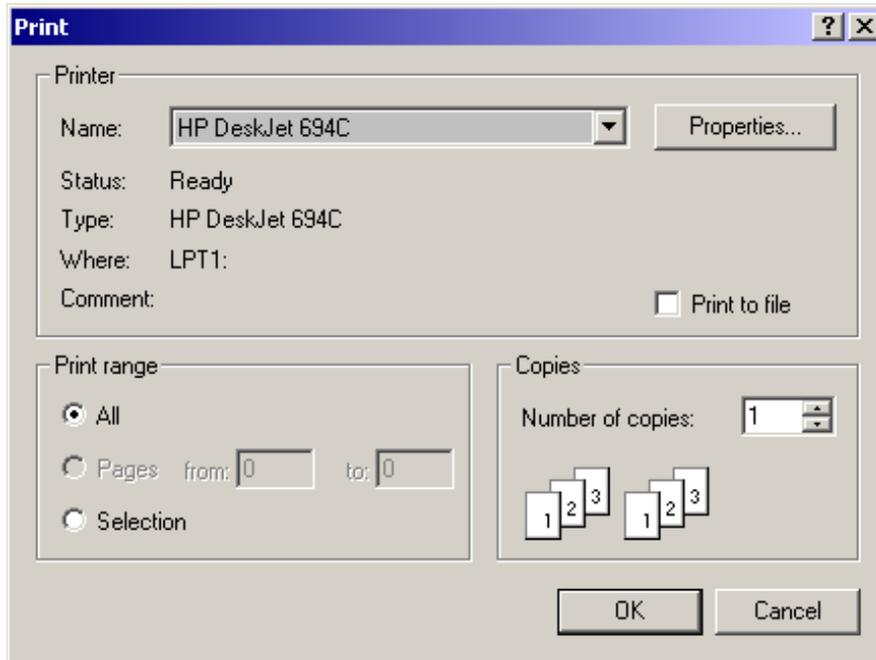

FIGURE 24. Print Bitmap dialog box
3. Select Open. A dialog box displays to show the available printers. (See Figure 24.) Select the desired one and press the OK button. If the file you selected is not a bitmap file, an error message displays.